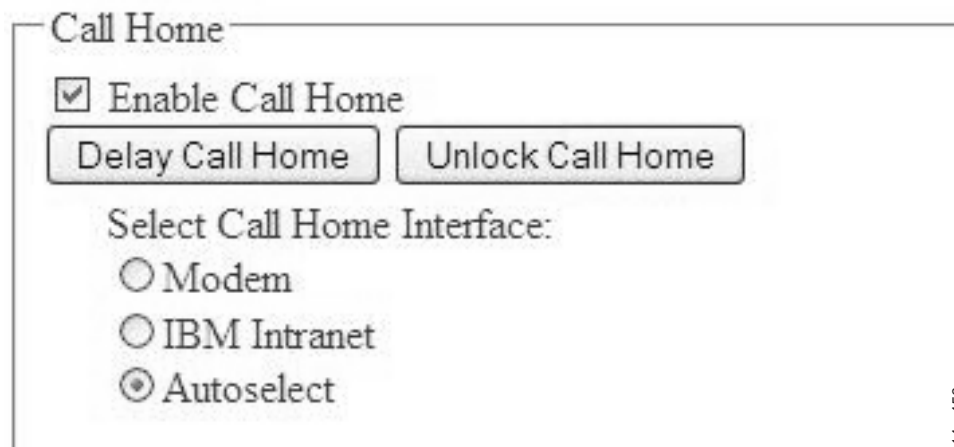

Figure 2-103. Unlock Call Home
- If ECC has been locked due to too many failed tries, you can clear the lock by clicking the "Unlock Call Home" button as shown in Figure 2-103.